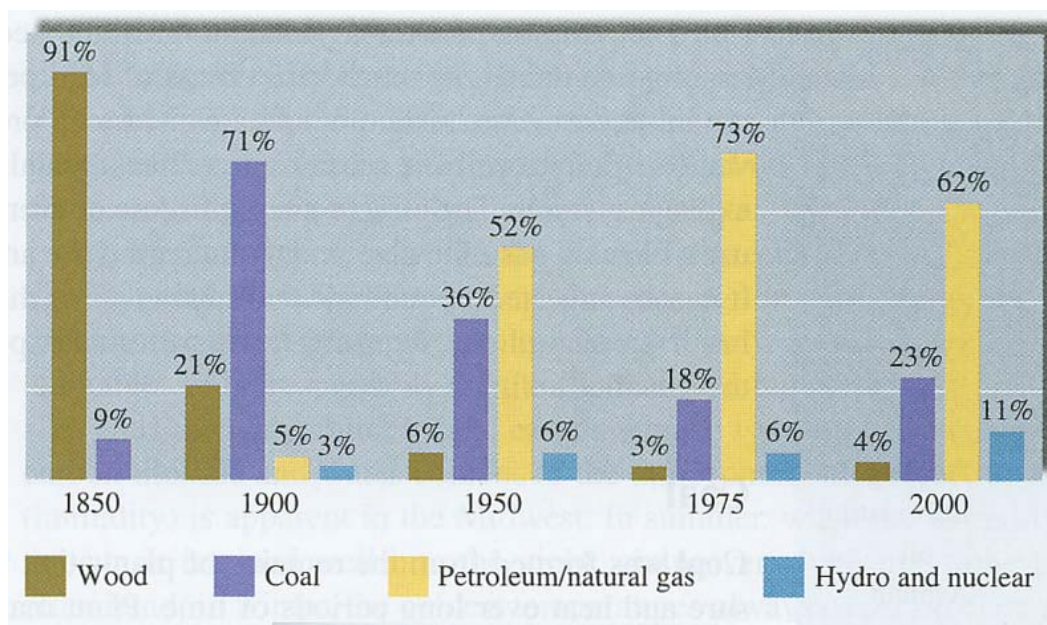

FIGURE 6.11
- **Uses of Fossil Fuels:** Let's return to Figure 6.11 and talk about sources *and uses* of energy in the USA over time.
- **Problems with Fossil Fuels – Supply:** If we refer back to Figure 6.11 (repeated here), we see that we derive most of our current energy consumption from petroleum (including natural gas). Indeed, it is said that the USA consumes some 30% of the world's petroleum production, and much of this must be imported, as we possess only about 3% of the world's known petroleum reserves. Moreover, our petroleum reserves peaked in the early 1970's and have declined ever since, despite vigorous exploration for new oil fields. Some politicians advocate expanded exploration for petroleum, but government studies indicate this will do little to expand supplies. More ominously, some experts warn that world petroleum production capacity may soon peak, causing demand to exceed supply, with skyrocketing oil prices being the consequence.